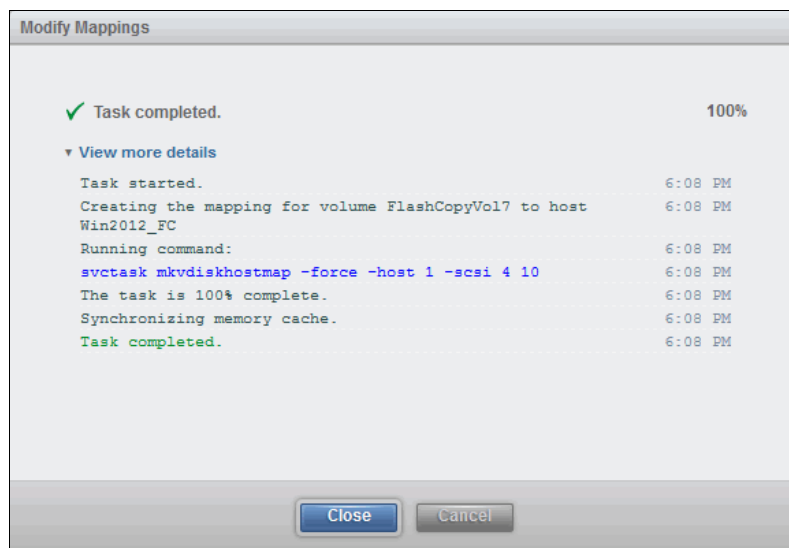

Figure 8-7 Modify Mappings task completed
- Click **Map Volumes** to apply the changes, and the Modify Mappings pane shows that the task completed successfully, as shown in Figure 8-7.